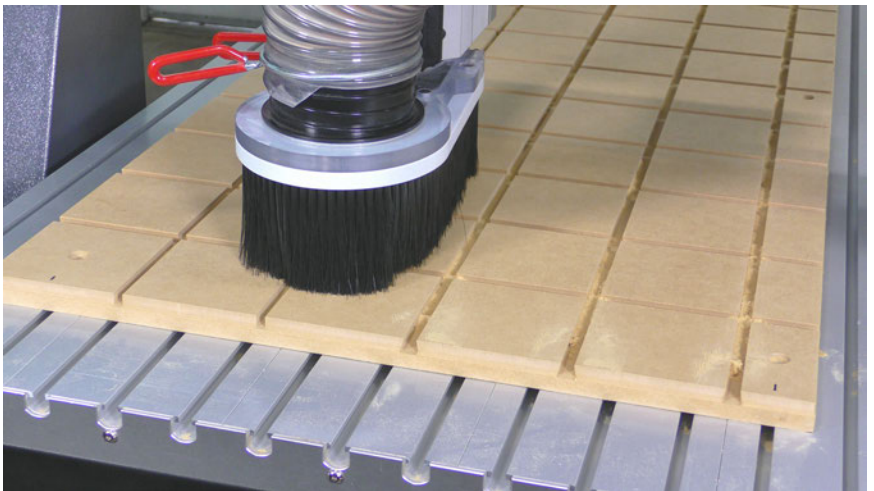

Fig 13e - Spoilboard Dovetail Cut
- 13.11. Using the same X,Y origin as the relief grooves, run the Dovetail Groove G-code program. (Fig 13e)